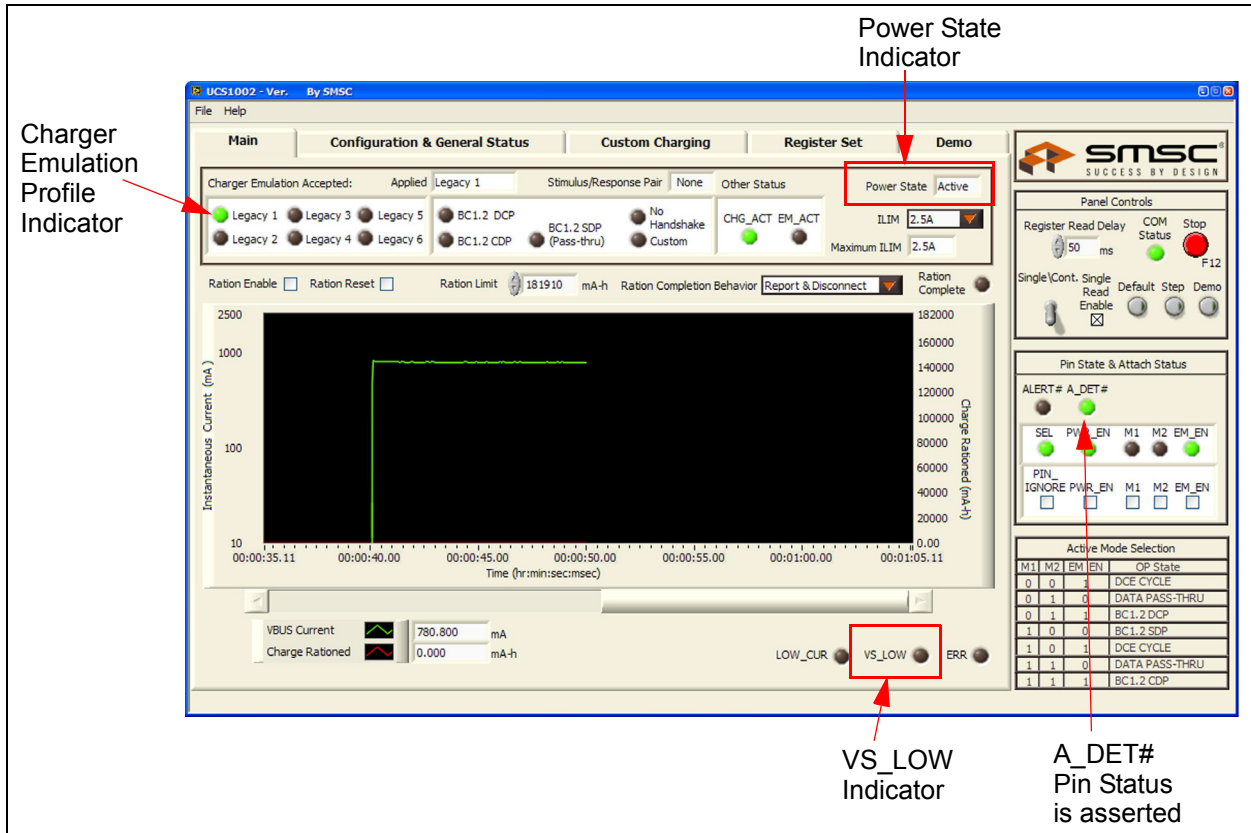

FIGURE 4-7: Main Tab - Charging Started.
3. The UCS1002 should detect an attachment, switch to the Active Power state, apply an emulation profile and deliver a charge. Figure 4-7 shows the interface after charging has started.